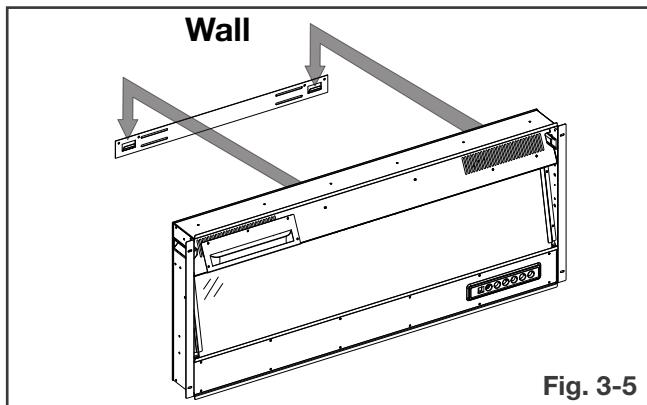

Fig. 3-5
- H. With the mounting bracket installed, have two people lift the appliance up and insert the two hooks on the bracket into the two slots on the back of the appliance (**Fig. 3-5**).